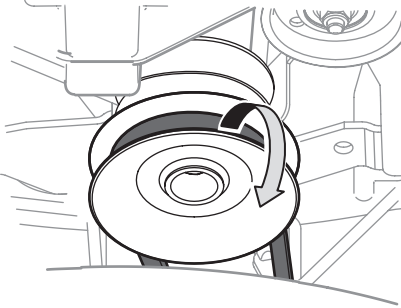

Figure 31
- Remove the belt from around the riding mower's PTO pulley. (Figure 31).
- Remove the deck belt from around the riding mower's PTO drive pulley (Figure 31<DT>). Simply roll one side of the belt off of the pulley and then work it off the pulley by continuing around the pulley until the belt is off of the pulley.
- Feed the deck belt through the belt keeper rod and work it around and onto the PTO drive pulley (Figure 31 on page 26).